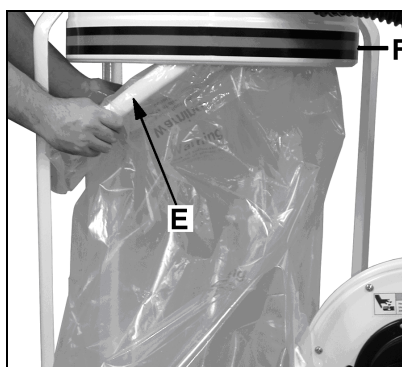

Fig 8
Insert the snap ring (E) of the collector bag into the bottom of the housing at an angle. Pull down until it engages in the groove (F, Fig 8)
Remove the collector bag by pushing the snap ring (E, Fig 8) of the collector bag upwards at an angle and pulling the bag and snap ring out.